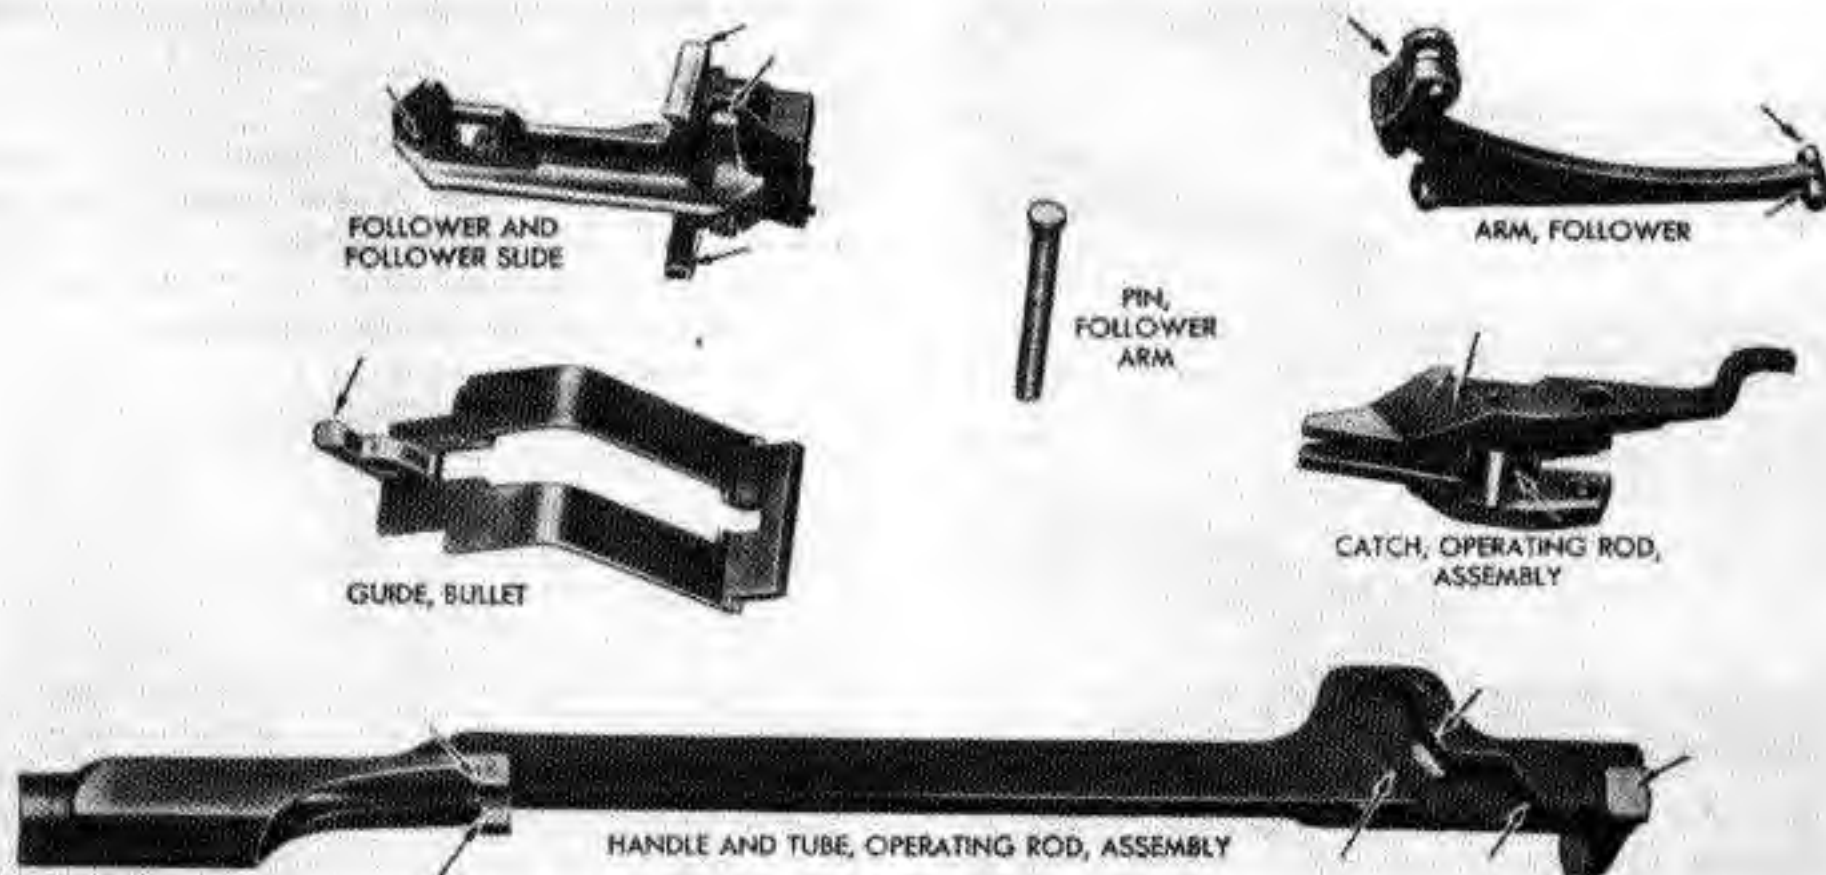
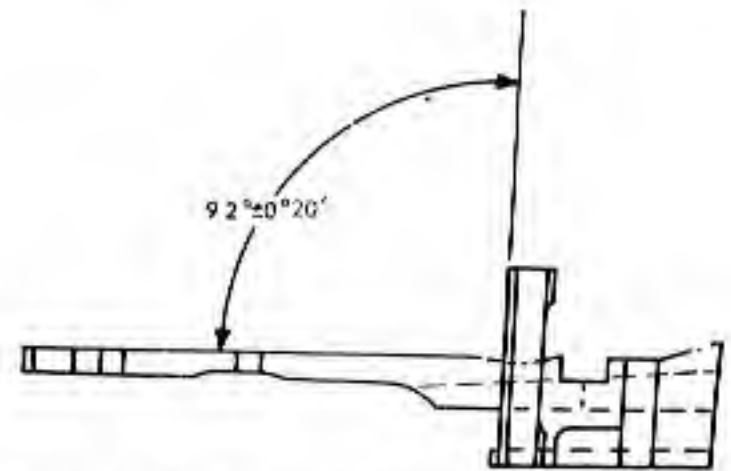
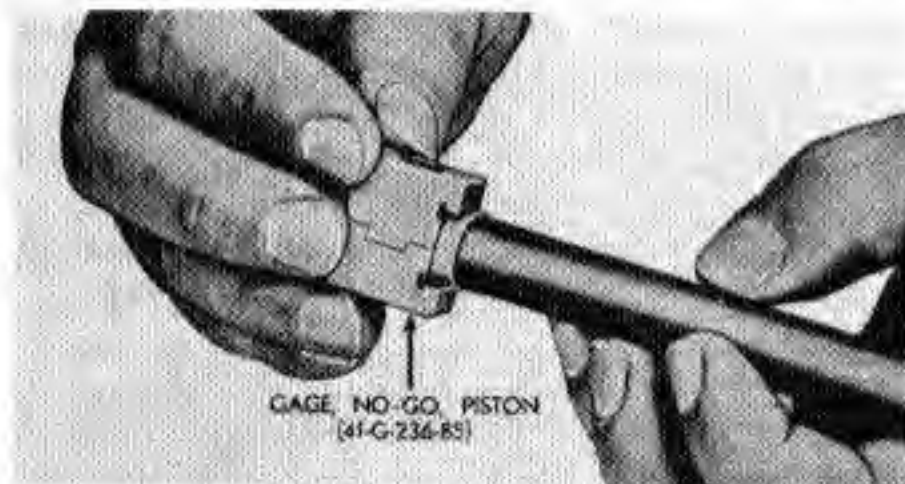

Fig. 117. Receiver group - points to inspect.
Fig. 123. Follower showing correct angle.
Fig. 122. Gaging diameter of piston.
45. General: inspect all parts for damage, wear, burs, rust, foreign matter in recesses, deformation, and for function and free action with mating parts. Important parts to be inspected are shown in Fig. 117 and 118. Test all springs for set, minimum length, and fractures.
48. Operating rod (Fig. 117): inspect for binding between the barrel and receiver group and the operating rod by installing the rod and bolt in the rifle. As the rifle is tipped up and down, the rod and bolt should be moved from the closed position to open position and back by their own weight. If there is binding, inspect the tube for dents and the handle for deformation, which will cause binding of the under side of the lug on the cut in the receiver. Inspect the piston for scoring and the accumulation of excessive carbon. Inspect the diameter of the piston with the no-go gage (Fig. 122). If measuring the piston with a micrometer, pistons which measure .525 or more inches will be considered serviceable. If the piston diameter is below the minimum as shown on the serviceability chart, the piston should be considered unserviceable.
49. Follower and follower slide (Fig. 117). Inspect the slides on follower for correct angle. An angle of approximately 92 degrees plus or minus 0 degree 20 minutes must be maintained (Fig. 123).
56. Correcting angle on follower: if the angle is not within the required limits (Fig. 123), bend slides to correct angle by lightly tapping with a brass hammer.